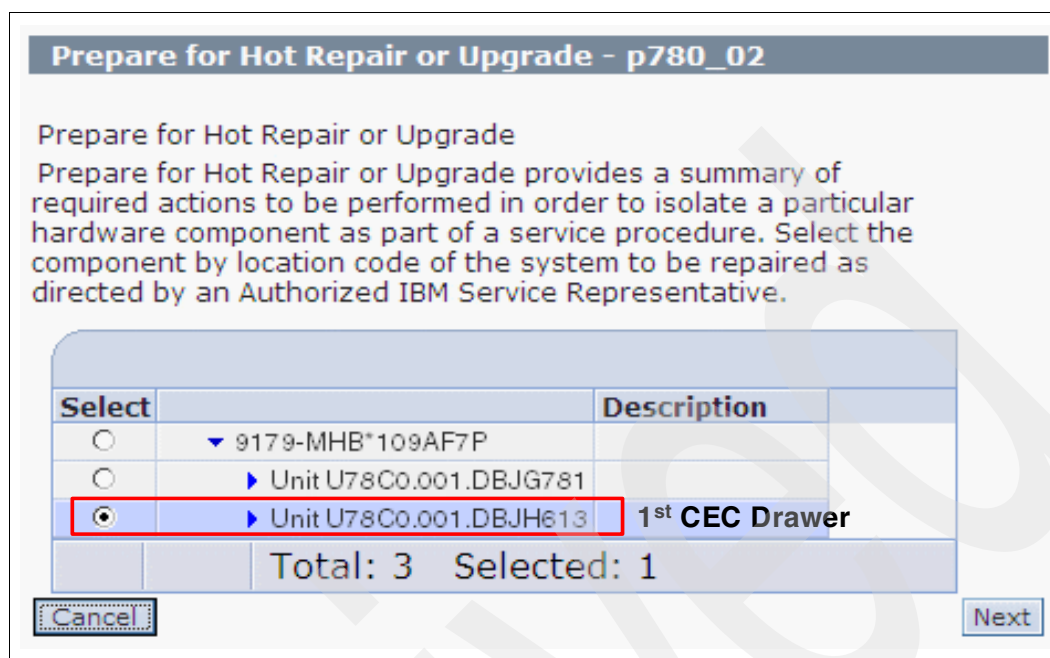

Figure 6-15 FRU selection on the Prepare for Hot Repair or Upgrade utility
3. Select the base location code that contains the field-replaceable unit (FRU) to be serviced, as shown in Figure 6-15.